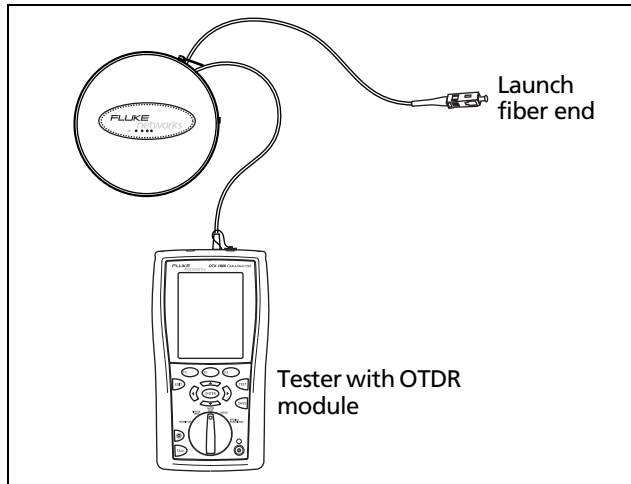

Figure 7-5. Launch Only Compensation Connections
- 5 Connect the fibers to the tester's OTDR port as shown on the screen and in Figures 7-5, 7-6, or 7-7; then press .